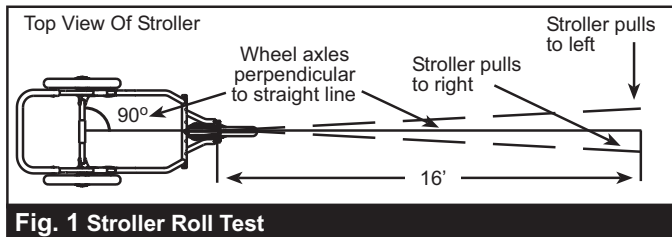

Fig. 1 Stroller Roll Test
- 4) Roll test the stroller as described below. It is recommended you have someone assist with this task in order to catch and return the stroller. Fig. 1 illustrates the roll test process.
- d. If the stroller consistently pulls to the left or right when pushed straight, proceed with the steps below until tracking is satisfactory. Fig 1. illustrates how to interpret the results.